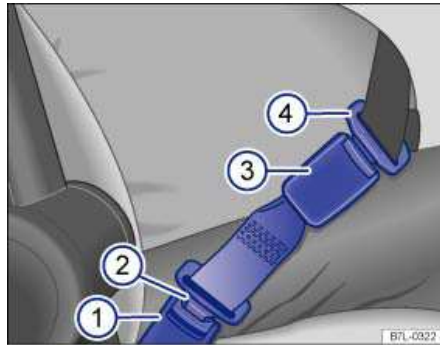

Fig. 82 A safety belt extender properly attached to the factory-installed safety belt.
Key to fig. 82:
- Insert the buckle tongue on the safety belt extender ⇒ fig. 82 \(2\) into the vehicle belt buckle for the seat where the safety belt extender is being used \(1\).